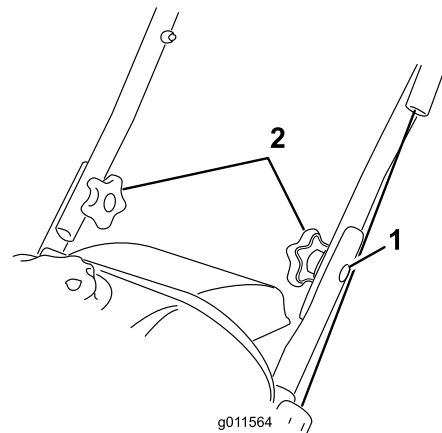

Figure 3
2. Insert the oval-head bolts into the aligned holes, with the bolt heads on the outside of the handle (Figure 3).
1. Oval-head bolt (2)
3. Install the curved washers and the handle knobs on the oval-head bolts on the inside of the handle (Figure 3) and **tighten the knobs securely**.